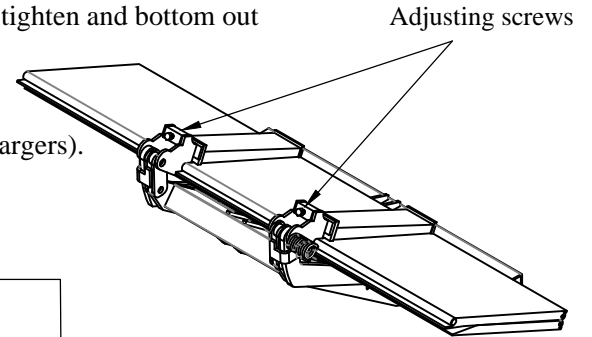

Figure 17: Adjusting Screws Location.
9. **Loose** the set screw and **Unscrew** the adjusting ring nut of the lifting cylinder completely (Figure 17).